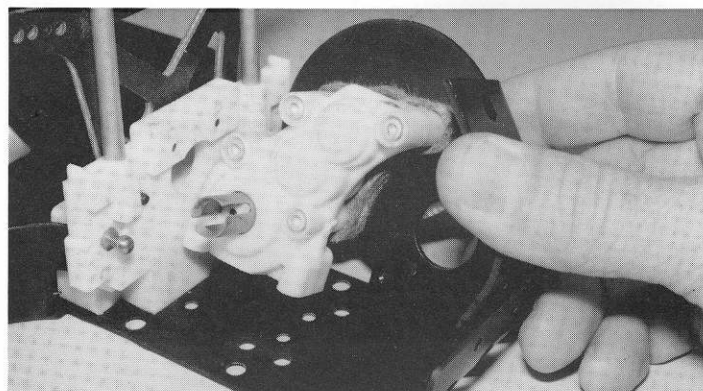
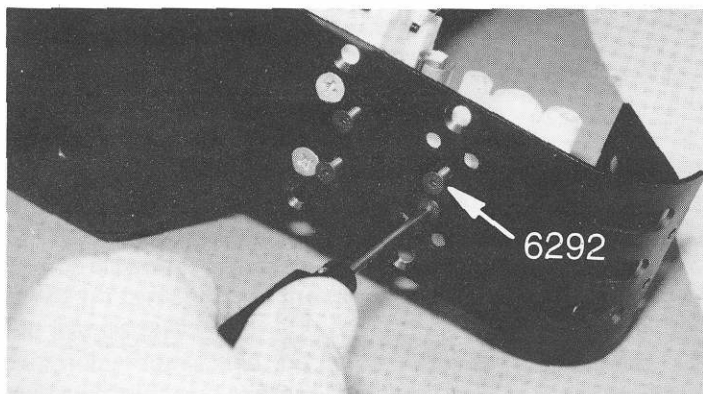

**Fig. 83**
**Fig. 84**
□ **Figs. 83 & 84** In bag #6-4 you will find the #6377 graphite rear shock strut and four #6932 4-40 x 5/16" SHCScrews. Mount the rear shock strut to the front of the rear bulkhead using the four screws, as shown in fig. 84.